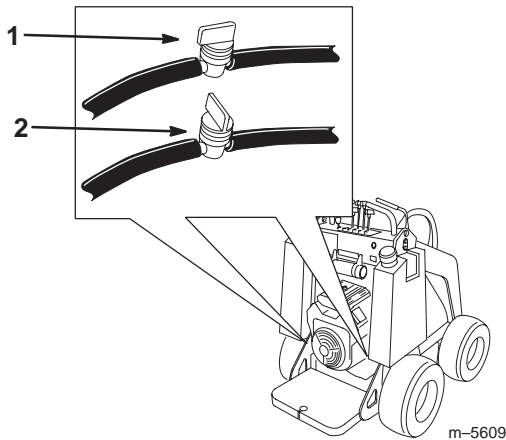

Figure 33
2. Shut off the fuel valve on the bottom of each fuel tank (Fig. 33).
- If you have a Dingo 323, turn the valve the hose near the bottom of each fuel tank as illustrated in Figure 33.
8. Open the fuel valve in the hose near the bottom of each fuel tank as illustrated in Figure 33.